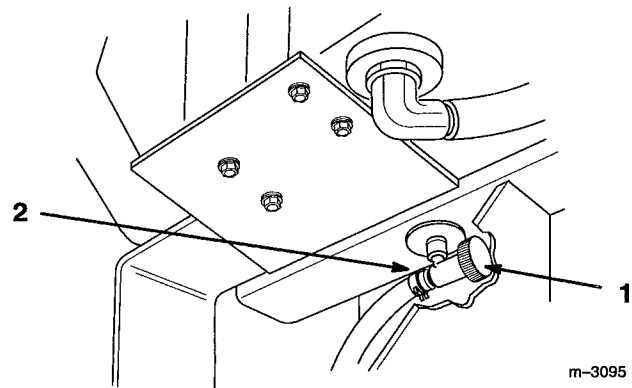

Figure 25
2. Close fuel shut-off valve at fuel tank (Fig. 25).
3. Squeeze the ends of the hose clamp together and slide it up the fuel line away from valve (Fig. 25).
4. Pull the fuel line off the valve (Fig. 25). Open fuel shut-off valve and allow gasoline to drain into a gas can or drain pan.
6. Open fuel shut-off valve at fuel tank (Fig. 25).